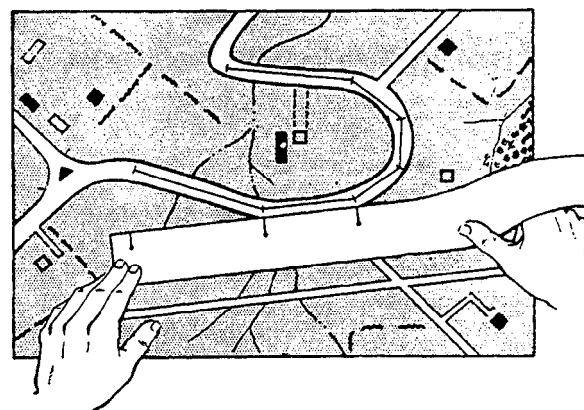

Figure 5-20.—Measuring curved line distance on a map.
1. Make a mark at or near one end of the paper and place it at the point from which the line is to be measured, as shown in figure 5-20.